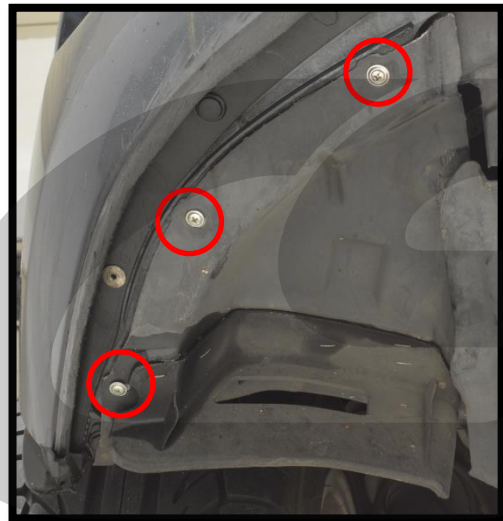

Figure 2c
- f) Using an 8mm socket or phillips screwdriver, remove three (3) screws from each side that attach the inner fender liner to the front bumper. Circled in red in Figure 2c.